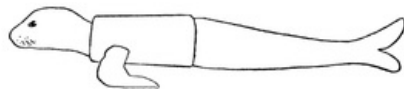

FIG. 146
**A Seal** can be made from a cork as in Fig. 146, and placed on the sledge.